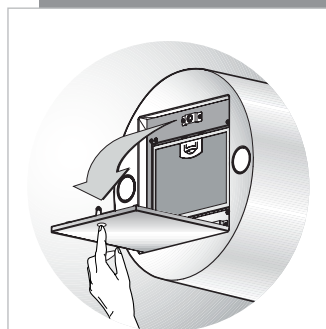
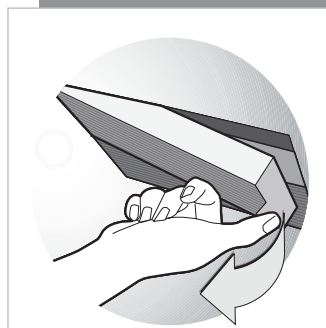

Fig. 2
Fig. 4
1. Push the cover panel to open the base of the extractor, as shown in fig 2.
To attach a new charcoal filter, first open the body of the extractor and remove the grease filter as shown in figures 2 and 3. Then offer up the charcoal filter into the frame as shown in figure 4 until it locks into place. Repeat with the other charcoal filter, then close the body of the extractor.